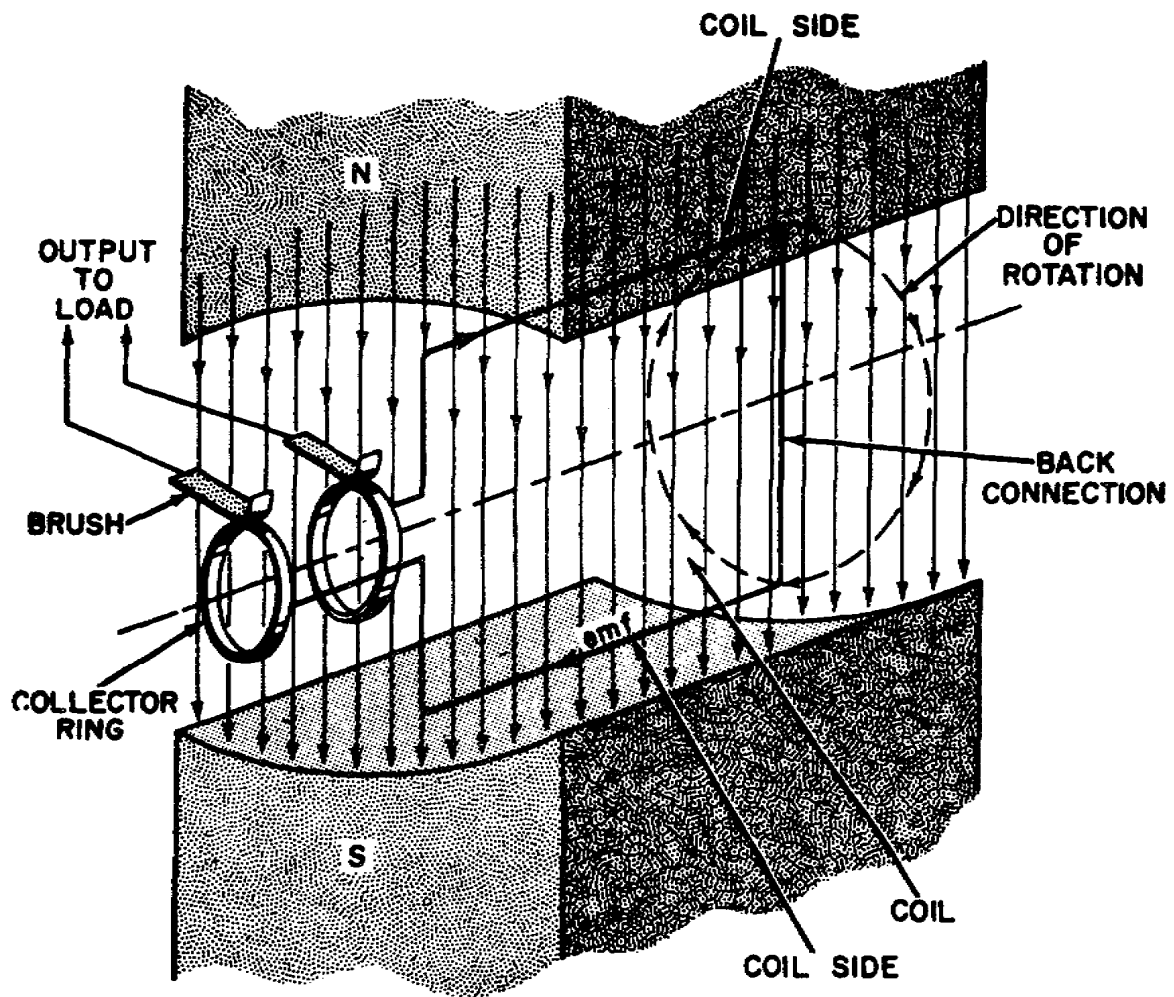

Figure 1.16. Alternating-Current Generator.
a. Alternating-current generator. In an ac generator, illustrated in figure 1.16, the ends of the rotating coils are connected to continuous metal rings, called sliprings, mounted on the axis (armature shaft) and insulated from each other. Metal or carbon blocks, called brushes, ride on the rings to make contact with the external circuit. The number of complete waves or cycles generated per second is called the frequency and is determined by the speed and design of the generator.